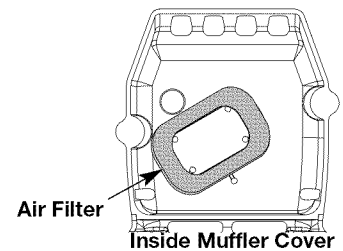

Fig. 14
2. Turn cover over and look inside to locate the air filter. Remove the air filter from inside the air filter/muffler cover (Fig. 14).
- Replace the air filter inside the air filter/muffler cover (Fig. 14).